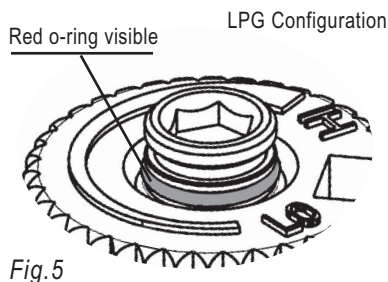

Fig. 5
- 21) Verify that if the conversion is from NG to LPG, the screw must be re-assembled with the red o-ring visible (Fig. 5).